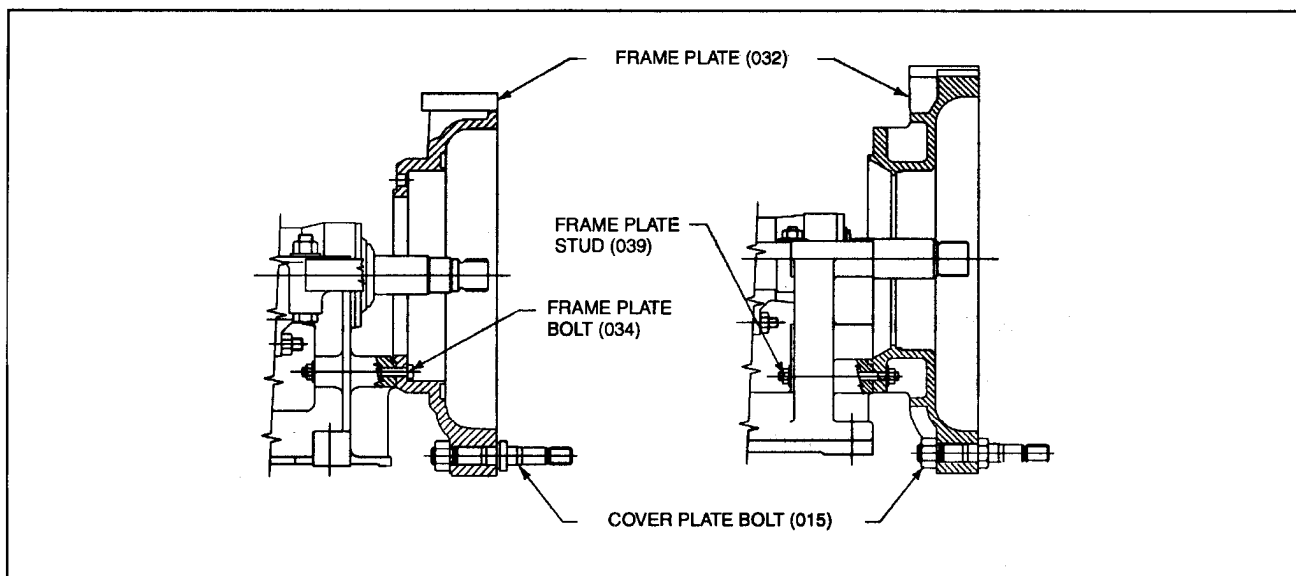

Figure 4-3 • Fitting Frame Plate and Cover Plate Bolts
2. Insert FRAME PLATE STUDS (039) or FRAME PLATE BOLTS (034), depending on the pump being certain that the largest diameter end is closest to the frame plate. (Refer to Figure 4-3.) Fit nuts and tighten to torque value on Table 4-1.